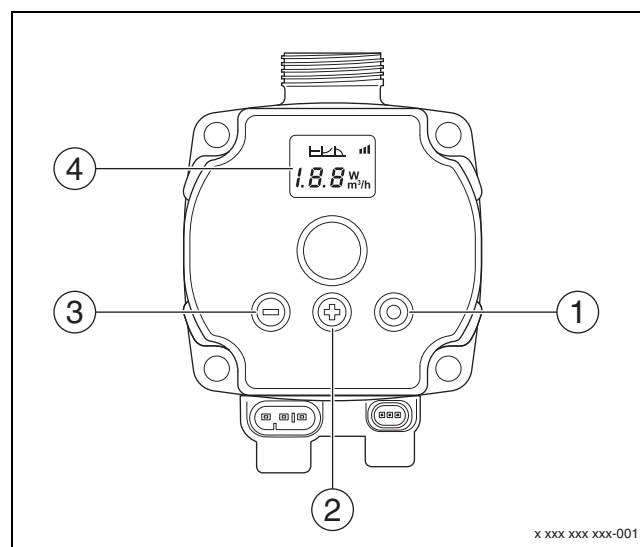

Fig. 7 Settings, pump Calio SI 25-80 HP PWM
- ▶ Press the switch (→ Figure 7 [1]) to activate the display (→ Figure 7 [4]) from idle mode.
3. To set the set value, press the switch (+) or (-) (→ Figure 7 [2] and [3]) to AN. Analogue signal 0-10 V appears.
4. Press the switch (→ Figure 7 [1]) to accept the set value.